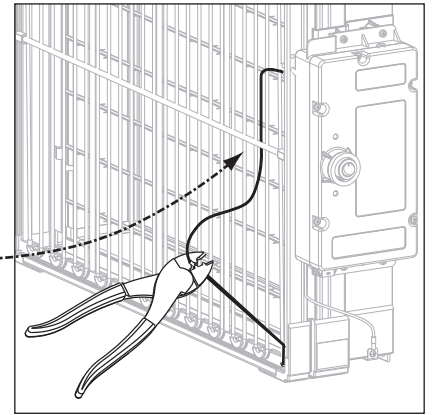

Fig. 14
- 7: Crimp the opposite side of the butt connector to the black replacement power supply wire (Fig. 14).